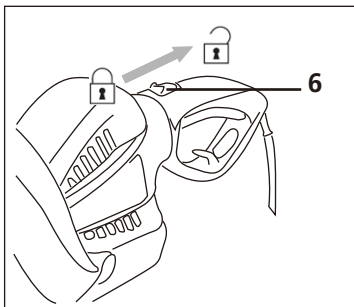

Fig 2
1. Pull the unlock button (6) backward and hold it in position (Fig. 2).